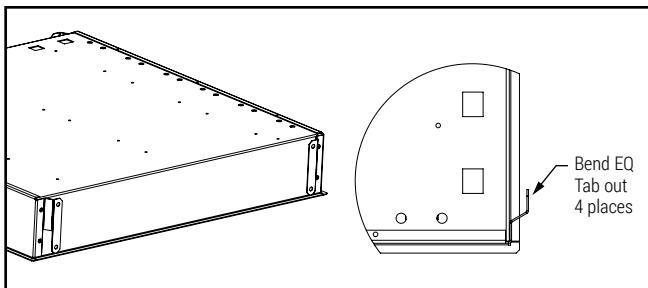

Figure 2.
5. Bend out EQ tabs on 4 corners of fixture to allow for installation into T-grid. (Figure 2.)